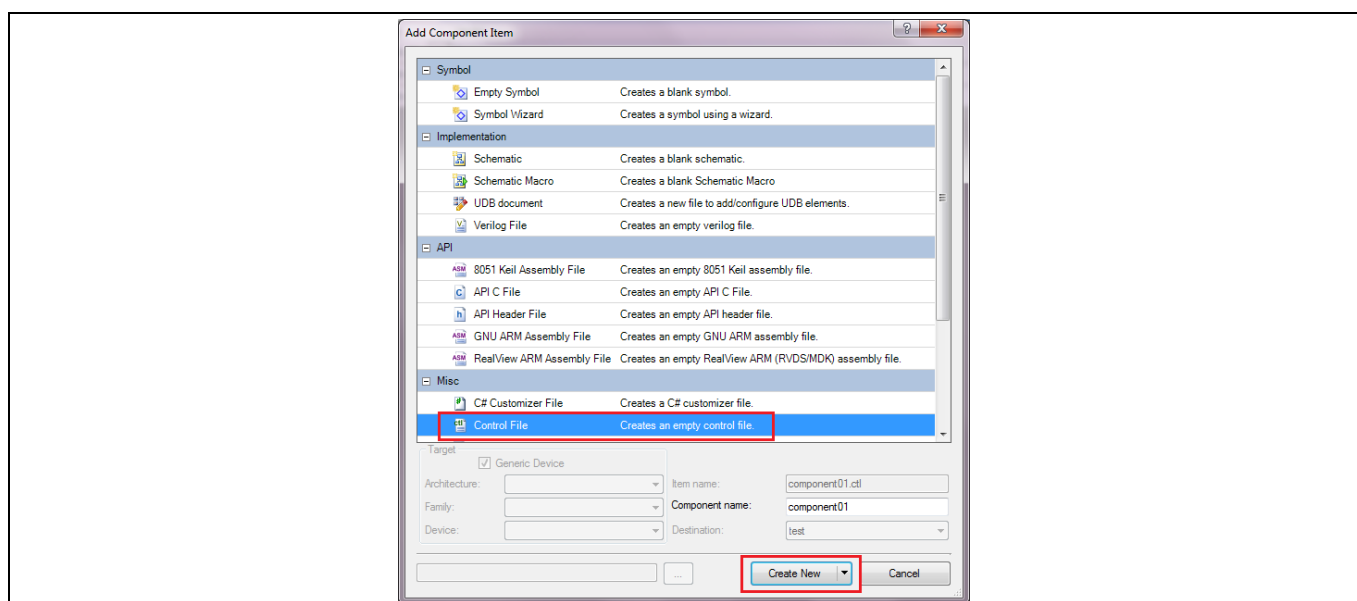

Figure 20 Adding the Control File
3. Scroll down to the **Misc** group, select **Control File**, and click **Create New**, as **Figure 20** shows.